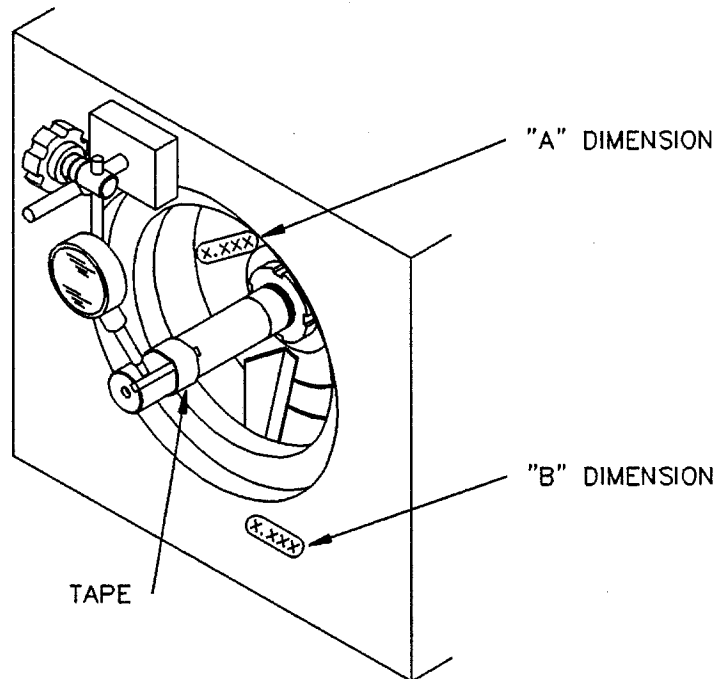

Figure 24: Backlash Setting
11. Install the key in the pinion shaft, tape the key in place, and measure the backlash by placing a dial indicator against the key at a right angle to the rotation. Restrain the hollow output shaft from turning and rotate the pinion shaft back and forth measuring the free movement. (*Figure 24, page 58.*)